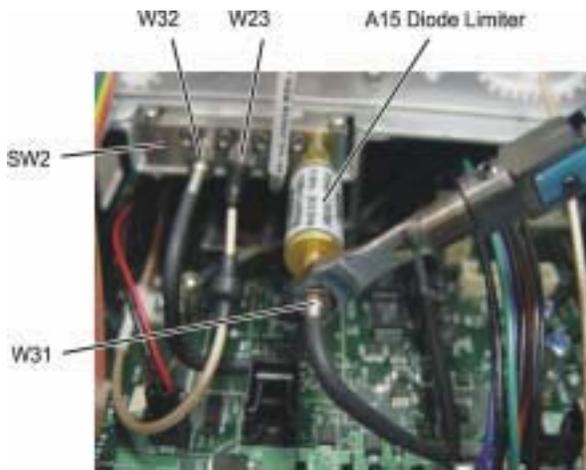

Figure 6-13. A15 Diode Limiter and SW2 Cable Connections
- 6 Connect cable W32 (from A14J3) to SW2P1 as shown in Figure 6-13. Torque the 5/16" connector to 8 in-lbs.